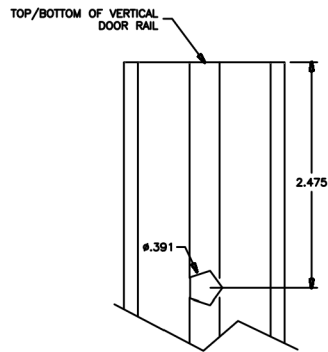

FIGURE 1
1. Place a $\phi.391$ hole 2.475 inches from the top and bottom of the door rail to accommodate the Tie Rod. See Figure 1